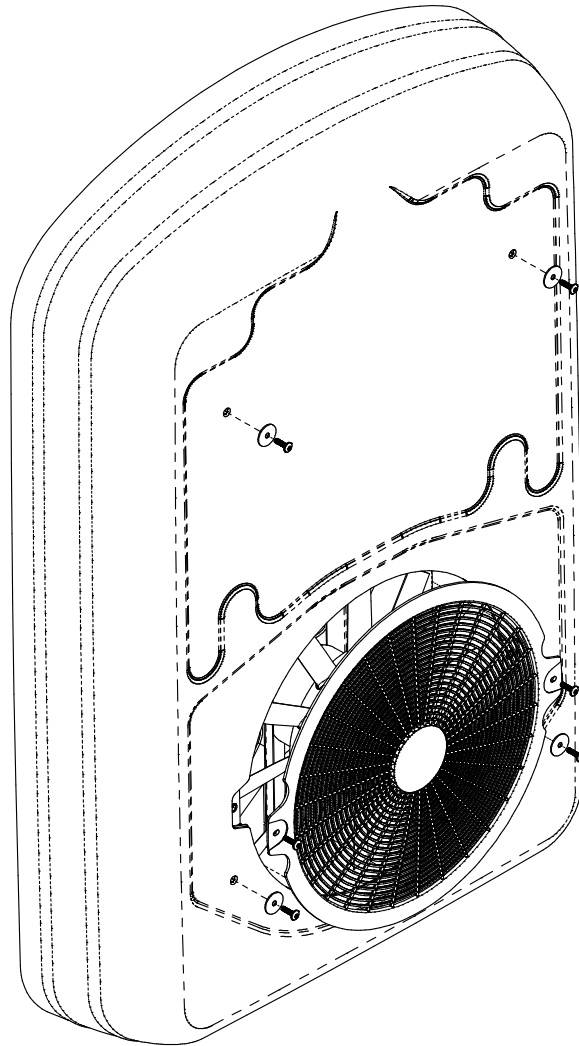

Figure 8
8. INSTALLING THE OPTIONAL OUTER SHROUD (FIGURE 8)